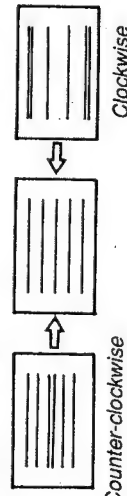

Fig. 29-3.
4. Adjust V. LIN GAIN by turning DA board RV22 as shown in Fig. 29-3.